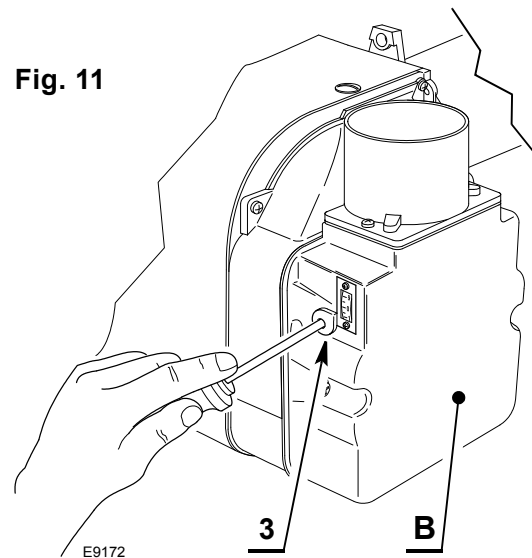

Fig. 11
- Remove the secondary air damper (B) losing the screws (1).
- Loosen the screw (2) and rotate the main air damper (A) to the required position.
- Retighten the screw (2) and put back the secondary air damper (B).
SECONDARY AIR DAMPER (B) - fig. 11